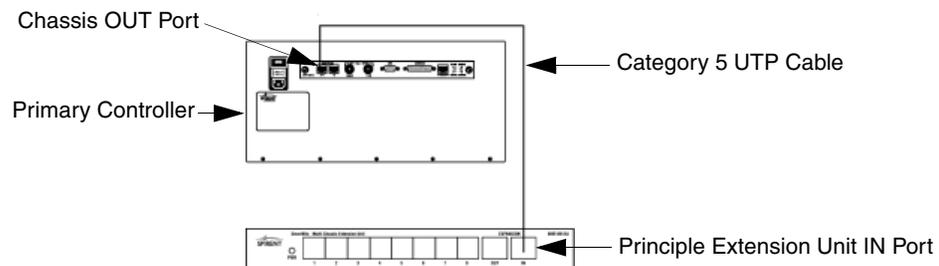
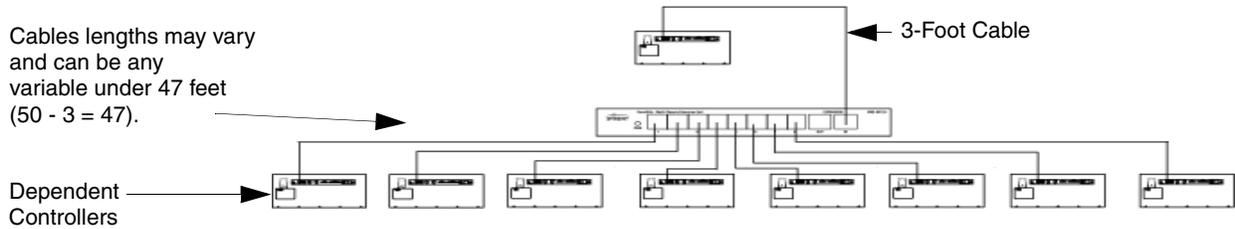

Figure A-9. Initial Connection of a SmartBits Chassis to an Extension Unit
Figure A-10. Connecting SmartBits Chassis to an Extension Unit
The primary SmartBits chassis connection that measures from the *Primary Controller* (or #1 chassis) to the *Principle Extension Unit* (see Figure A-9) determines the maximum cable length of subsequent cables used between a SmartBits chassis connected to the Multi-chassis Extension Unit.
To determine the cable length limitation for these connections, subtract the length of the *Primary Controller/Principle Extension Unit* cable from 50 feet (15.24 meters). In the example shown in Figure A-9, the cable used to connect the master chassis to the *Principle Extension Unit* is 3 feet in length. Therefore, the maximum accumulative cable length from the extension unit to all directly connected chassis can be any variable under 47 feet ($50 - 3 = 47$) in length (see Figure A-10 on page 100).
- 1 Connect a cable from the expansion OUT port of the *Primary Controller* to the IN port on the *Principle Expansion Unit* as shown in Figure A-9.
- From each of the *Principle Extension Unit's* eight ports, connect up to eight *dependent controllers* IN ports as shown in *Figure A-10*.